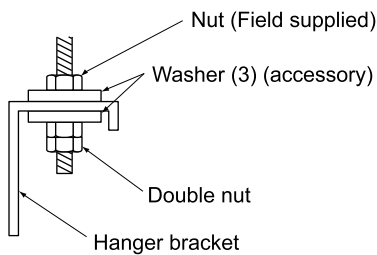

Fig. 9
- (1) **Secure the hooks to the eyebolts. (Refer to Fig. 9)**